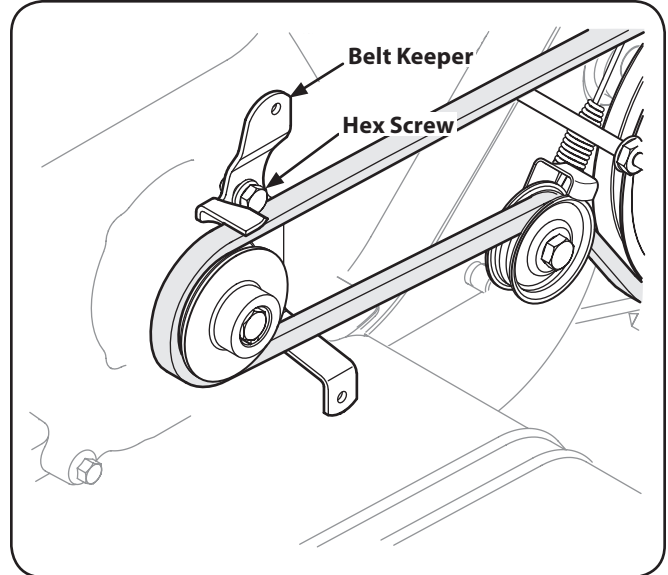

Figure 1-3
4. Using a 1/2" wrench, remove the hex screw securing the belt keeper to the engine. See Figure 1-3.